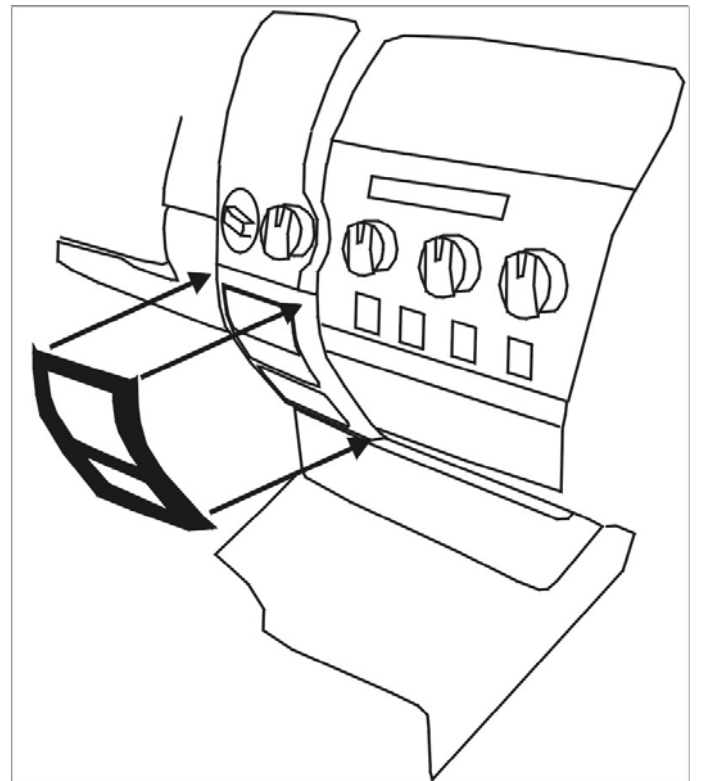

Fig. 4-2
(1) Console: Align part uniformly to edge of factory components aligning all switch openings. (Fig. 4-2)